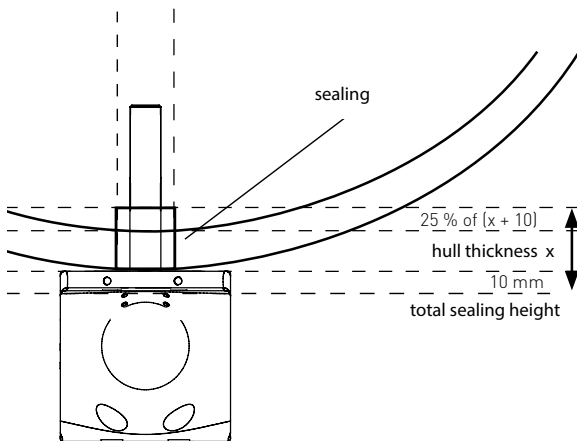
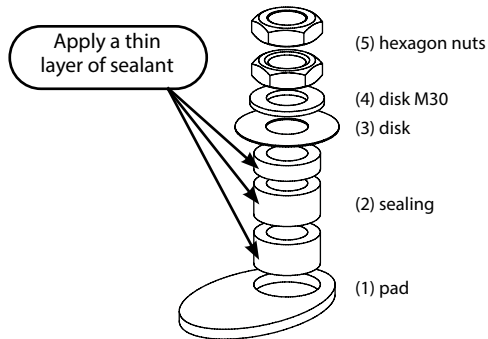

Fig. 10: Drilling and total sealing height
Fig. 12: main connection GRP
Bolt down the thruster via the main connection, thereby paying attention to the right number of seals (fig. 10). The sequence corresponds to the one in fig. 12, whereby, depending on the hull thickness, several seals (2) must be used. It is to be considered that those seals are compressed by about 25 % when tightening the bolts (fig. 10).
Bolt down the thruster via the main connection, thereby paying attention to the right number of seals (fig. 10) The sequence corresponds to the one in fig. 20, whereby, depending on the hull thickness, several seals (1) must be used. It is to be considered that those seals are compressed by about 25 % when tightening the bolts (fig. 10).